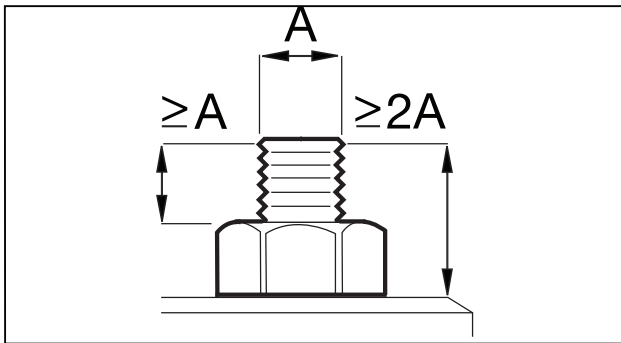

FIGURE 4, STUD EXTENSION REQUIREMENTS
7. Check that each stud is correctly installed and that there is sufficient stud extension to engage the tensioner. The exposed portion of the stud (above the nut) should be at least the same dimension as the stud diameter. The total protruding length of the stud (from joint surface to end of stud) must be at least twice the length of the exposed portion of the stud. See Figure 4.